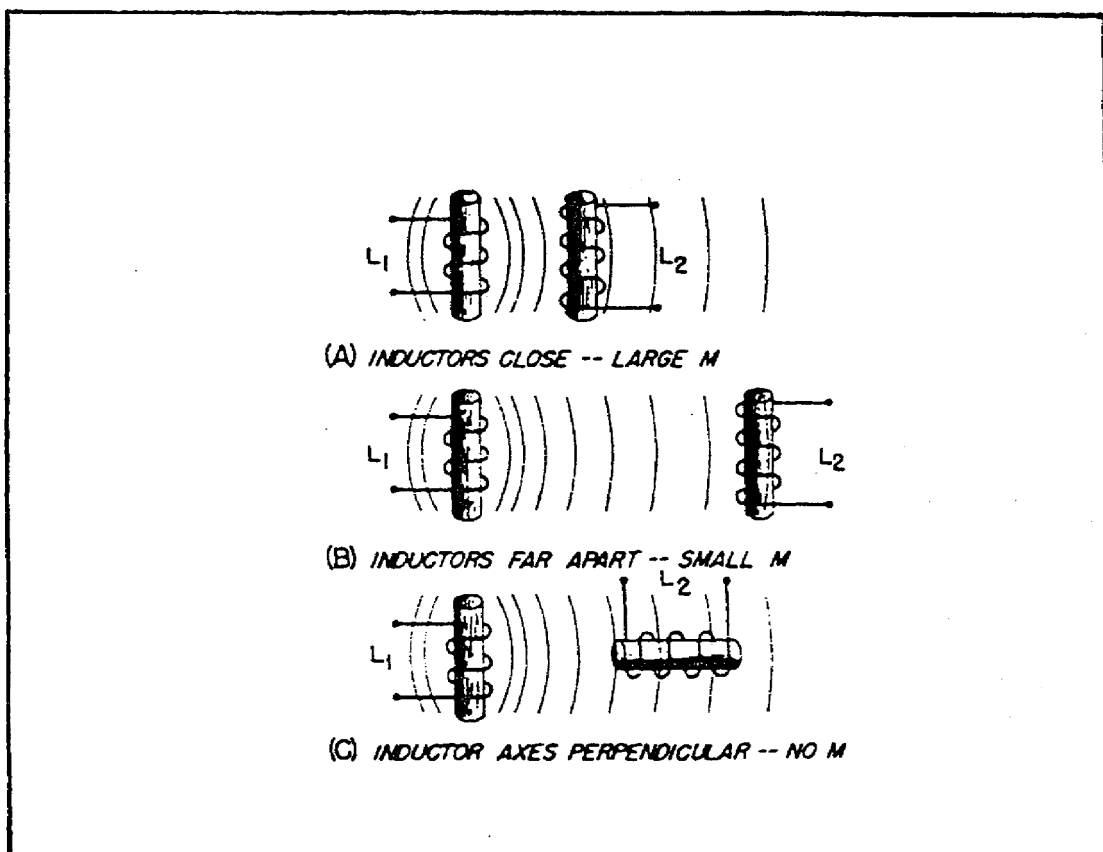

FIGURE 22. THE EFFECT OF POSITION OF COILS ON MUTUAL INDUCTANCE.
g. *Mutual Inductance.* Whenever two coils are located so that the flux from one coil links with the turns of the other coil, a change of flux in one coil causes an emf to be induced in the other coil. This allows the energy from one coil to be transferred or coupled to the other coil. The two coils are said to be coupled or linked by the property of MUTUAL INDUCTANCE. The amount of mutual inductance depends on the relative positions of the two coils. This is shown in figure 22 on the following page. If the coils are separated a considerable distance, the amount of